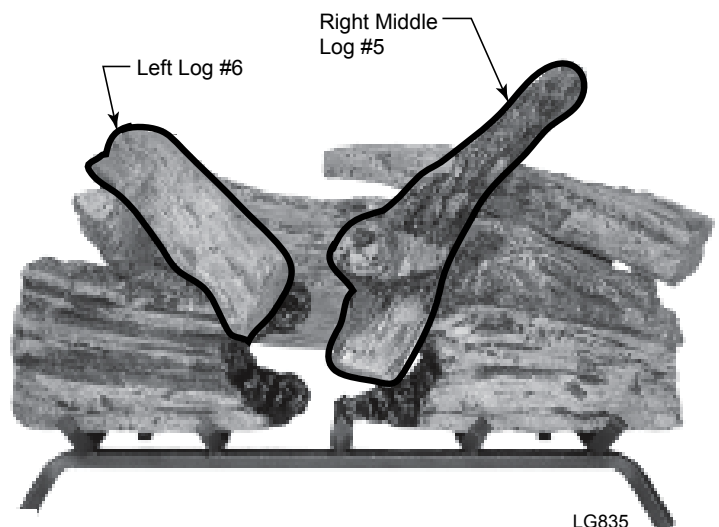

**Figure 84 -
6. Rest front end of right log #4 on right top of log #1b. The back end of log #4 rests to right hump on log #3. *Figure 84*